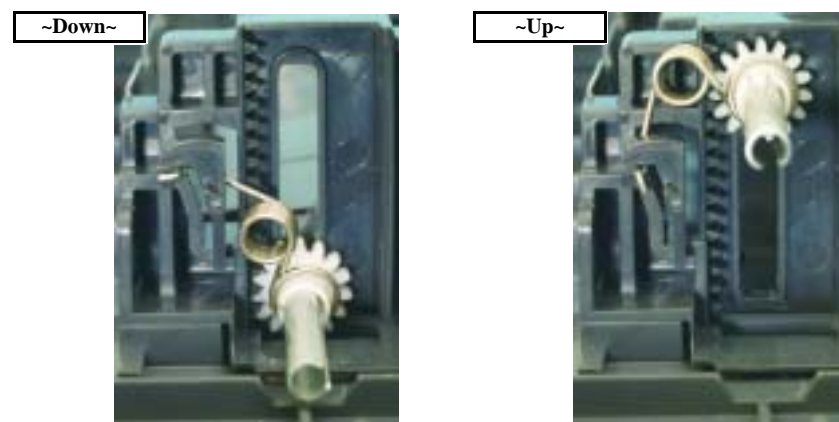

Figure 4-46. Installing the CD-R Guide Lever Spring
- See Fig. 4-46 for installation of the CD-R Guide Lever Spring.